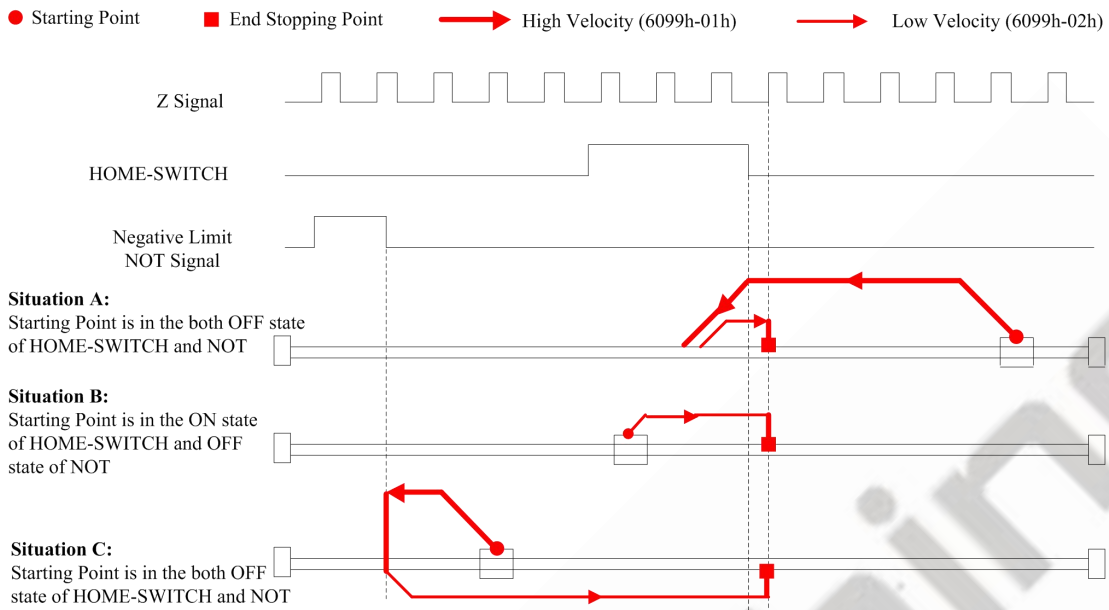

Figure 7-11 Method 11
- If the motor starting point is in the OFF state of HOME-SWITCH and Negative Limit , it will move toward negative direction at Fast Homing Velocity (6099-01h), and have a deceleration stop when HOME- SWITCH goes ON, then move toward positive direction at Low Homing Velocity (6099-02h) and motion stops when the first Z signal after leaving HOME-SWITCH goes ON, as shown in Situation A of Figure 7-11.
- If the motor starting point is in the ON state of HOME-SWITCH and OFF state of Negative Limit, it will move toward positive direction at Low Homing Velocity, and the motion stops when the first Z signal after leaving HOME-SWITCH goes ON, as shown in Situation B of Figure 7-11.
- If the motor starting point is in the OFF state of HOME-SWITCH and Negative Limit, it will move toward negative direction at Fast Homing Velocity until the Negative Limit goes ON to have a quick stop, then moves toward positive direction at Low Homing Velocity and motion stops at the first effective Z signal after leaving HOME-SWITCH, as shown in Situation C of Figure 7-11.